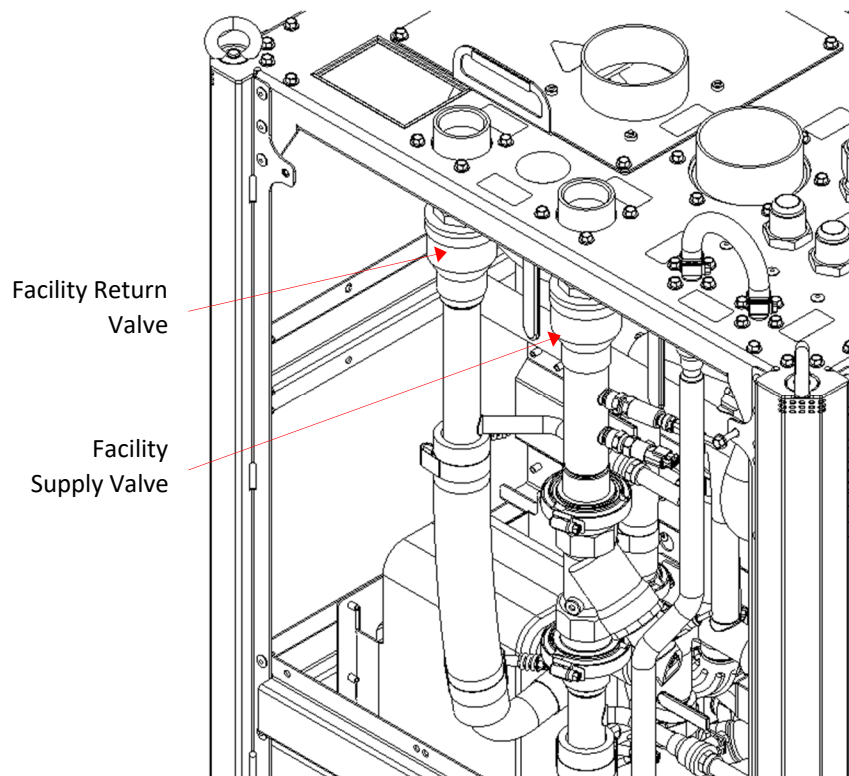

Figure 2-27: FPU Valves for Adjustment
2. Locate the FPU supply and return valves in the ICC (refer to Figure 2-27).
- a. If the FPU valves were closed, fully open the FPU Supply Valve (refer to Figure 2-27, handles parallel to flow).